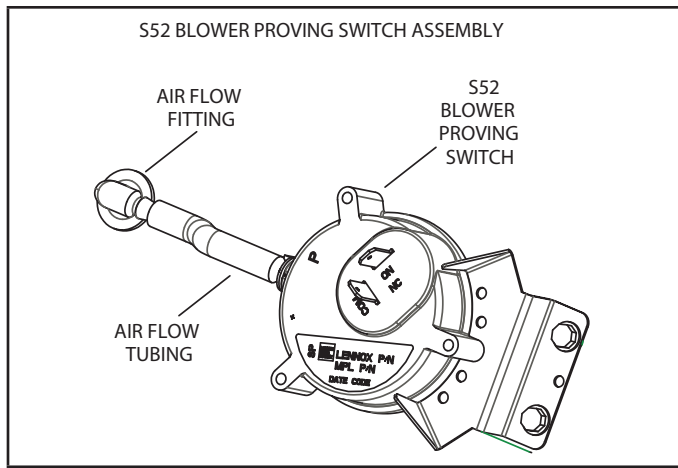

FIGURE 1
- 3 - Assemble air flow switch, tubing, and fitting as shown in figure 1.